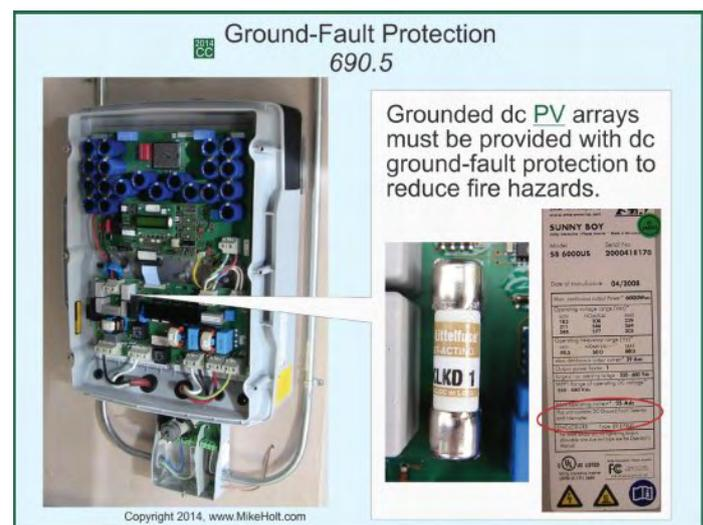

Figure 690–24
Grounded dc PV arrays must be provided with dc ground-fault protection meeting the requirements of 690.5(A) through (C) to reduce fire hazards. Figure 690–24